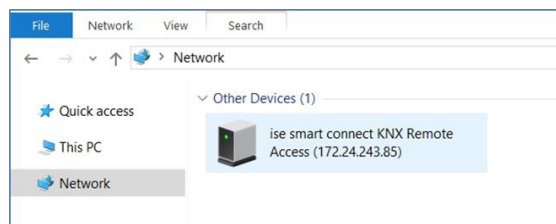

Figure 34: Calling up the device network via network environment
- Alternatively, select the device in the network environment (see Figure 34): Double click on the device icon.